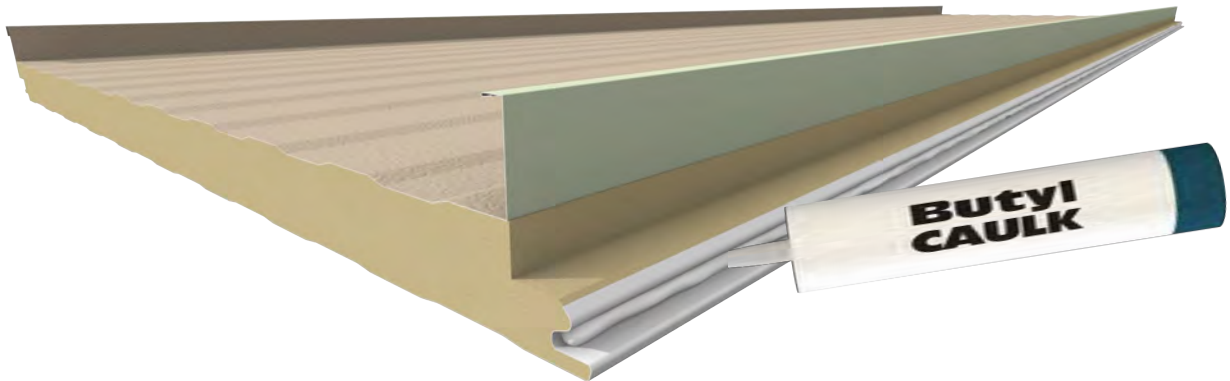

Figure 8.2
8.2 Apply continuous non-curing (non-skinning) butyl sealant to the interior panel joint with a bead size of approximately 1/4" as shown in figure 8.2. Sealant should provide continuous seal between the tongue and groove, but not overflow onto panel faces.